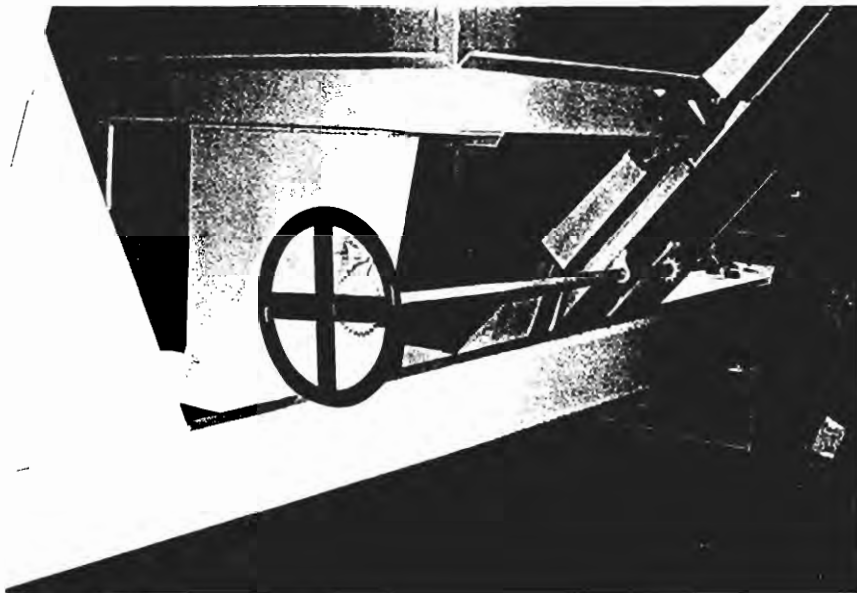

FIGURE 17: PIT DUMP WHEEL
2. See Figure 17 on next page. Rotate pit dump wheel to open gate, initiating grain flow out of cart. Sprocket latch enables gate to hold a desired opening distance. If flow reduction is required, the sprocket latch must be manually released and wheel rotation reversed.